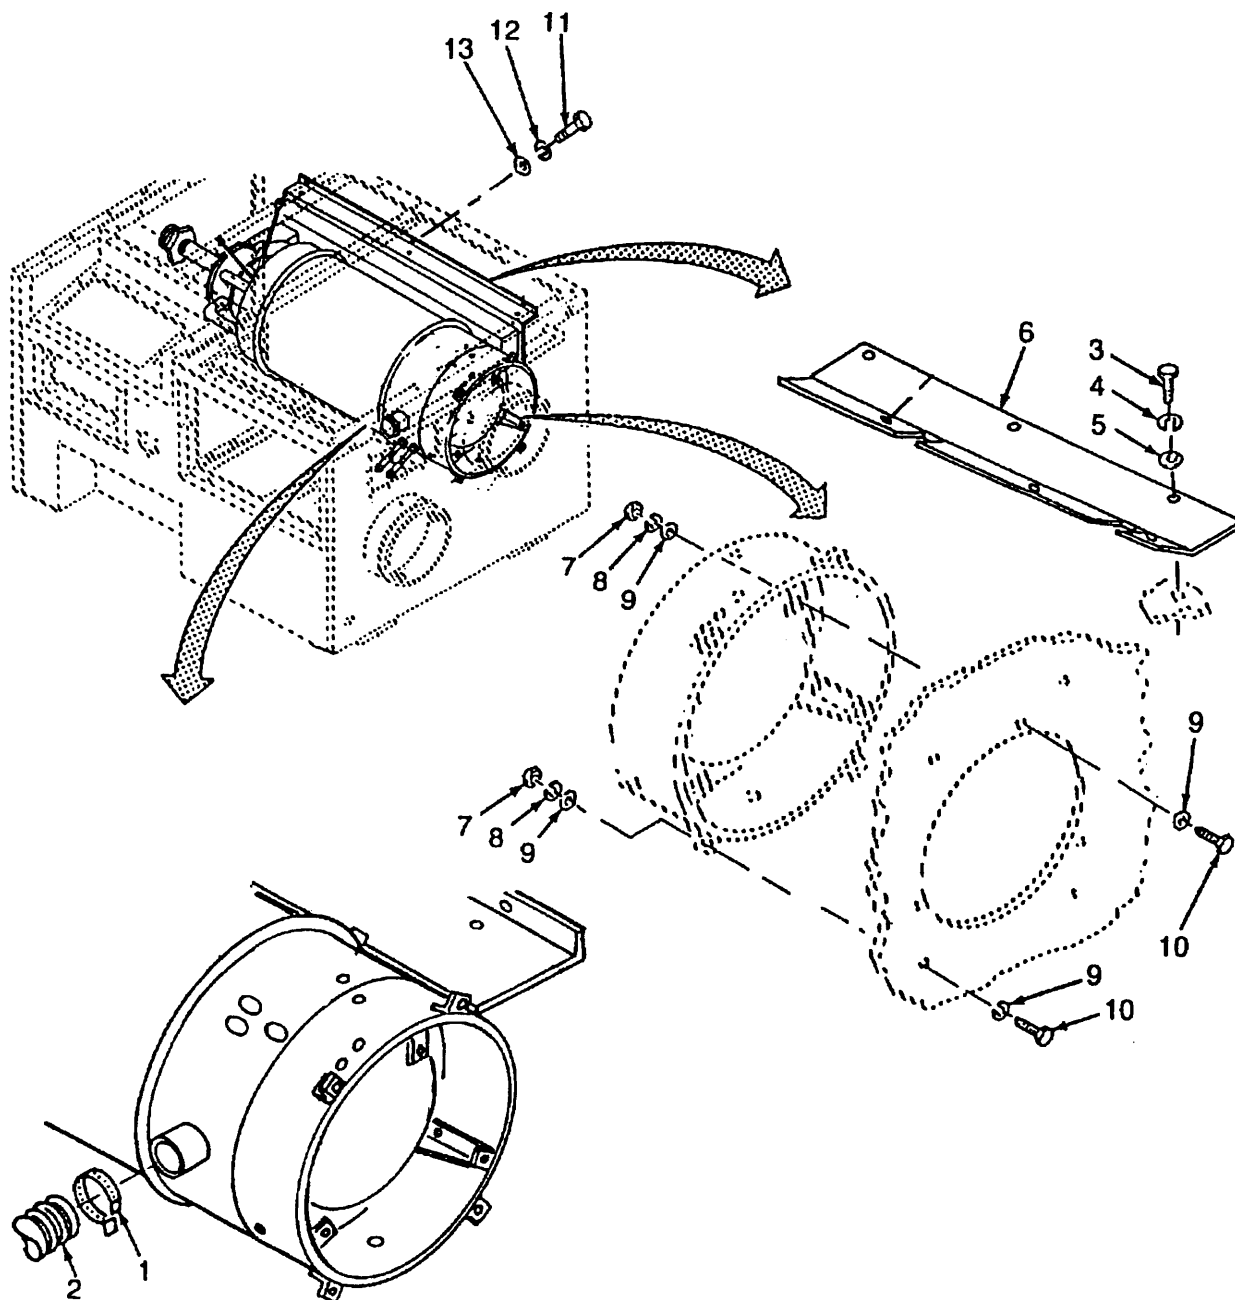

Figure 5-10. Heat Exchanger, (Model H120) Removal
- (1) Loosen clamp (1) and remove hose (2).
- (2) Remove six screws (3), six lockwashers (4), six flat washers (5) and shield (6). Discard lockwashers.
- (3) Remove seven nuts (7), seven lockwashers (8), fourteen flat washers (9) and seven screws (10). Discard lockwashers.
a. Removal - continued (Refer to Figure 5-10)
(4) Remove six screws (11), six lockwashers (12) and six flat washers (13). Discard lockwashers.